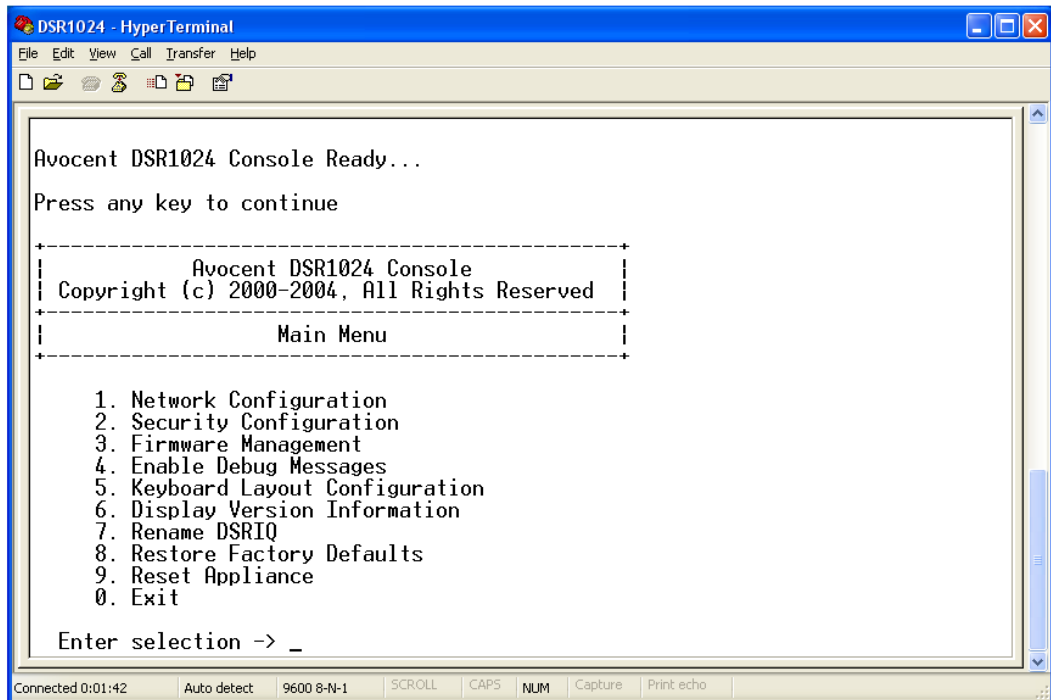

Figure 5.1: Console Main Menu
1. When you power on your DSR1024 switch, the switch initializes for approximately one minute. After it completes initialization, press any key on the terminal or on the PC running the terminal emulation software to access the Console menu interface as shown in Figure 5.1 on page 46.
2. The Console Main menu displays as shown in Figure 5.1.